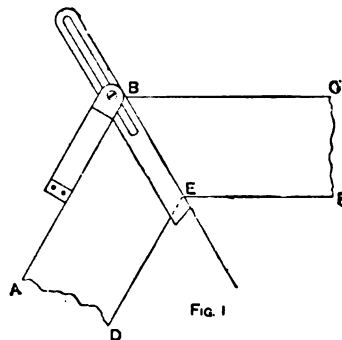
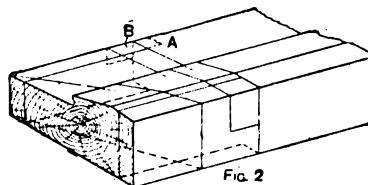

Fig. 1
Fig. 2
that the sockets are exactly in a line with the face of the wall and with the centre of the niche. A zinc template is cut to the shape of a vertical section of the niche and tacked on to the board as shown in the illustration (Fig. 1). An iron pivot is attached to the lower part of the mould to fit into the socket at B, and a bolt to fit the upper socket at A. When the mould is placed in position, with the pivot in the socket B, the bolt is pushed up, and the mould is ready for work. Fig. 2 shows the opposite side of the mould, and explains the manner in which the edge of the zinc template is bevelled on to the board. The board is sawn to the required shape, with the edge roughly bevelled, as shown on the lower part of the illustration. The zinc template is then cut, and tacked on to the opposite side of the board, allowing about  $\frac{1}{2}$  in. projection all round. A few tacks are then driven into the bevel on the board, and plaster applied, thus making a clean and sharp bevel at the working edge of the mould.
**Sills for Bay Window.**—In setting out the sills of a bay window and obtaining the bevel cuts, first set out ABC (Fig. 1), which shows the angle made by the side frame with the front frame, then mark off the breadth of the sill from A and C, and draw DE and EF parallel to AB and BC respectively; join BE, which is the mitre line between the ends of the sills as shown. At Fig. 2 is shown a conventional view of the end of a sill set out for pulley stile, inside lining, and outside lining. Some-